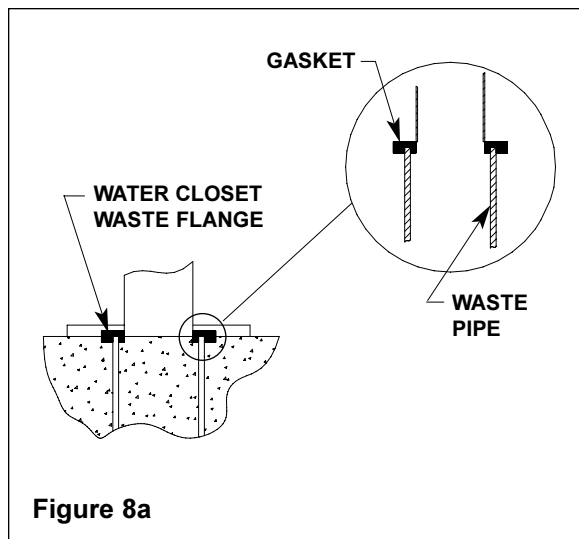

Figure 8a
2. Connect the water closet waste piping to the floor waste outlet or wall waste outlet (using a waste outlet connection fitting supplied by installer) (see Figure 8a/8b).